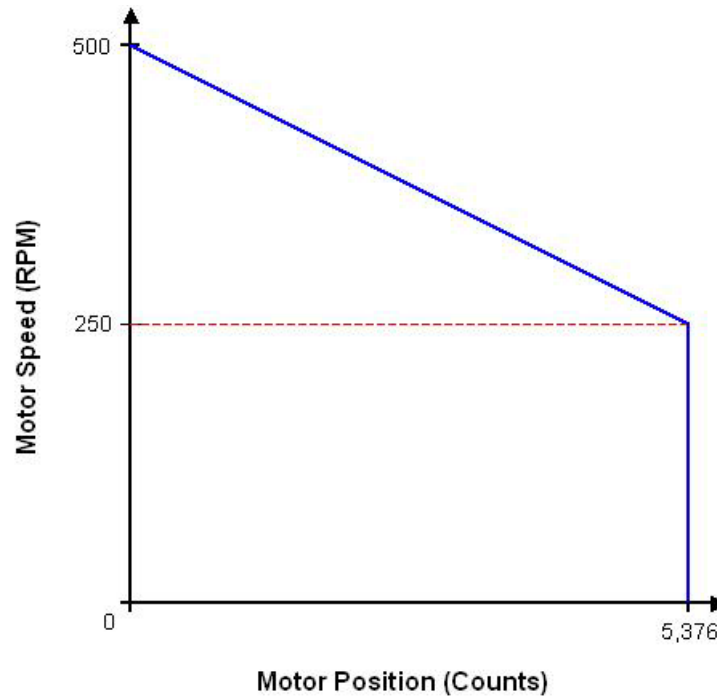
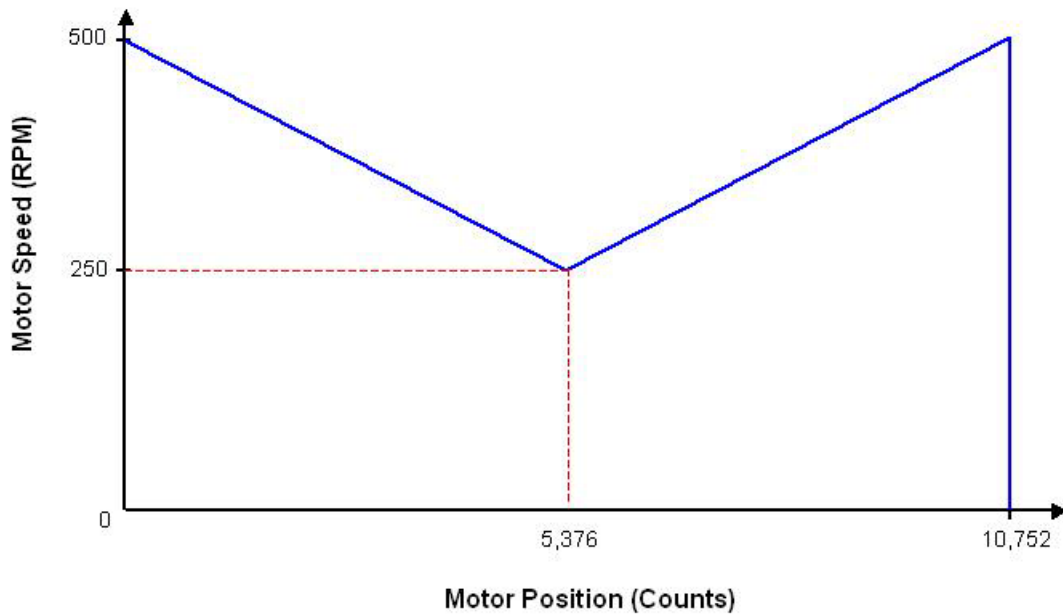

Figure 14. Motor speed profile in control example 1.
Figure 15. Motor speed profile for two consecutive position packets
The value calculated in Equation 2, Max Speed, and Approach speed are next sent to the IDCA-10 as command values. Upon execution the motor will start rotating at 500 RPM. The IDCA-10 will adjust the motor speed so the motor will be running at the commanded approach speed when it reaches its destination. The speed is adjusted proportionally to the distance traveled. For example, the motor's speed will be at the midpoint between *Max Speed* and *Approach Speed* when the motor has traveled half the commanded distance. Figure 14 depicts the motor speed profile that results from the values used in this example.
As Figure 14 shows, the motor starts rotating at 500 RPM and decreases proportionally to the distance traveled until it reaches its target position. Once the motor reaches its target the motor will stop and wait to execute another position command.
2. The speed profile in Figure 14 shows how the IDCA-10 processes a single position packet. The motor will be commanded to 0RPM if no other command packets are stored in the instruction buffer.
3. Figure 14 and Figure 15 depict ideal speed profiles for a motor. The actual speed profiles achieved will ultimately depend on how well the PID controller is tuned for a given system. The user should spend ample time tuning their system in speed control mode before attempting to carry out position control operations.